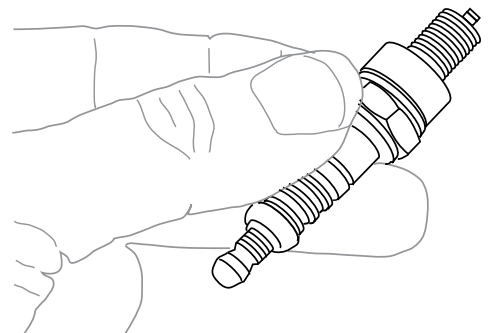

Figure 12
3. When installing a new spark plug, adjust the plug's gap to the specification on the technical specification chart. Do not pry against the electrode or the insulator, the spark plug can be damaged (see Figure 12).